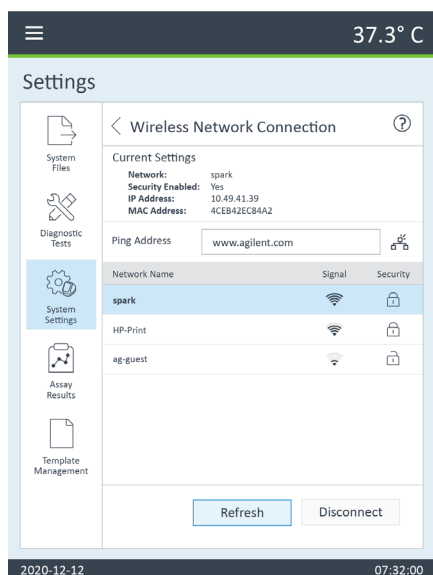

Figure 32. Example wireless network selection table
- 3 Click the right arrow (bottom right) once to access the Wireless Network Connection Settings screen shown in **Figure 32**.